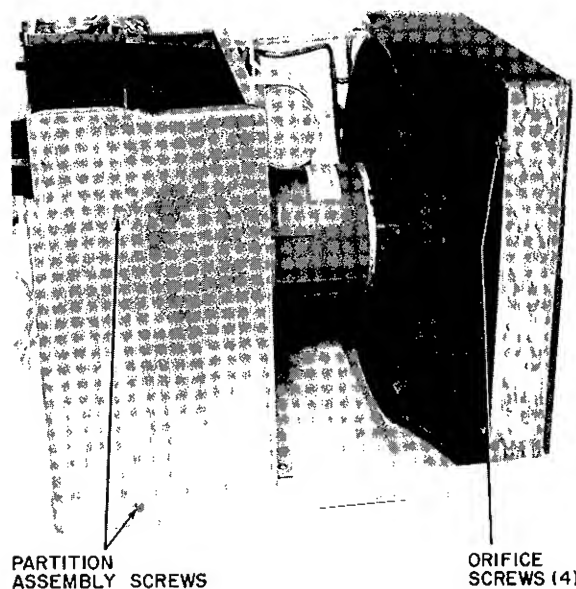

Fig. 15 — Partition and Orifice Assembly Screws
- c Remove condenser orifice by removing 4 screws holding condenser orifice to the tube sheet as shown in Fig 15 and 18.
- c Remove 2 side screws fastening partition assembly to basepan and partition assembly to evaporator coil tube sheet. See Fig 15.
- d Remove 2 back screws which hold partition assembly to basepan. See Fig 15.
- f Remove 4 screws which fasten condenser orifice to tube sheet See Fig 15 and 18